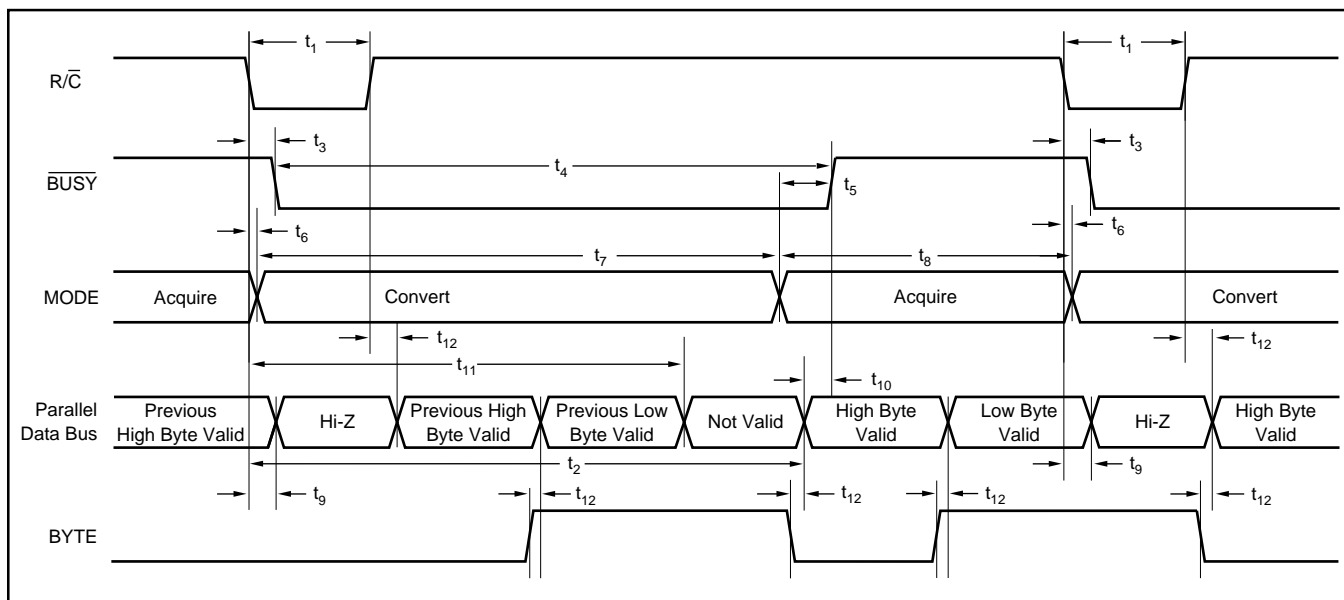

FIGURE 2. Conversion Timing with Parallel Output ($\overline{\text{CS}}$ and DATACLK tied LOW, $\overline{\text{EXT/INT}}$ tied HIGH).
The ADS7807 will begin tracking the input signal at the end of the conversion. Allowing 25 μ s between convert commands assures accurate acquisition of a new signal. Refer to Tables II and III for a summary of \overline{CS} , R/\overline{C} , and $BUSY$ states, and Figures 2 through 6 for timing diagrams.
NOTE: (1) See Figures 2 and 3 for constraints on data valid from conversion 'n – 1'.
After conversion 'n' is completed and the output registers have been updated, $\overline{\text{BUSY}}$ (pin 24) will go HIGH. Valid data from conversion 'n' will be available on D7-D0 (pins 9-13 and 15-17). $\overline{\text{BUSY}}$ going high can be used to latch the data. Refer to Table V and Figures 2 and 3 for timing constraints.
After conversion 'n' has been initiated, valid data from conversion 'n - 1' can be read and will be valid up to $12\mu\text{s}$ after the start of conversion 'n'. Do not attempt to read data beyond $12\mu\text{s}$ after the start of conversion 'n' until $\overline{\text{BUSY}}$ (pin 24) goes HIGH; this may result in reading invalid data. Refer to Table V and Figures 2 and 3 for timing constraints.